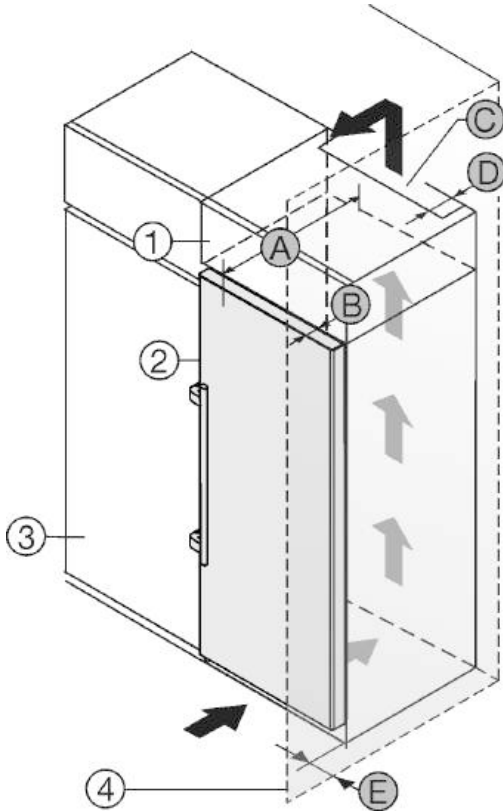

Fig. 2
- (1) Top cabinet *
- (2) Appliance *
- (3) Kitchen cabinet *
- (4) Wall *
- (A) Appliance depth *
- (B) Door depth *
- (C) Ventilation cross section *
- (D) Distance to the back of the appliance *
- (E) Distance to the side of the appliance *
You can place the appliance directly beside the kitchen cabinet Fig. 2 (3).*
There must be a ventilation shaft at the depth Fig. 2 (D) of the back of the top cupboard over the entire width of the top cupboard.*
The ventilation cross-section Fig. 2 (C) must be maintained under the ceiling.*
If the appliance is set up with the hinges next to a wall Fig. 2 (4), the distance between the appliance and the wall must be at least 57 mm . This is how far the handle protrudes when the door is open.*
In order to be able to fully open the door, the appliance must protrude by the depth of the door Fig. 2 (B) from the front of the kitchen cabinet. The appliance may protrude further depending on the depth of the kitchen cabinets Fig. 2 (3) and whether wall spacers are used.*